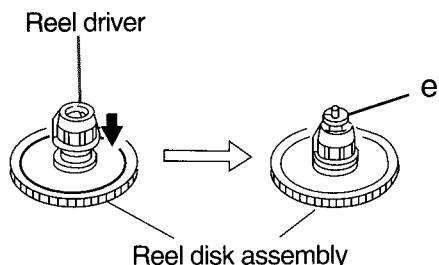

Fig. 7
**■ Removing the Reel Disk Assembly ( See Fig. 7 )**